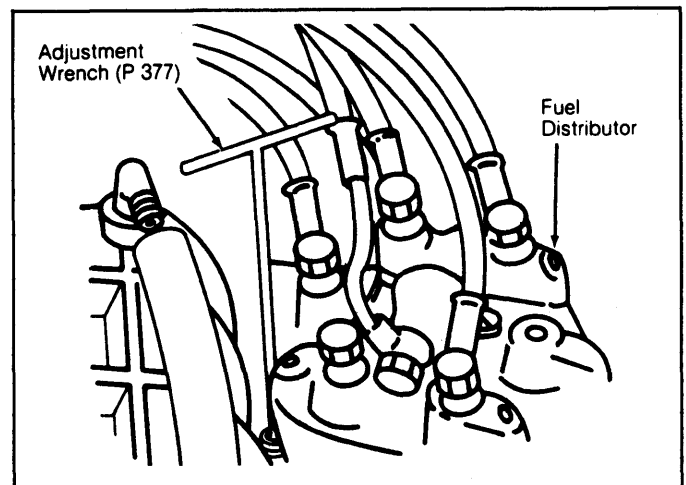

Fig. 4: Adjusting Idle Speed & Mixture
4) Remove mixture adjustment wrench and accelerate engine briefly. See Fig. 4. Wait until CO% meter has stabilized for idle speed reading. Check idle speed and CO% level and adjust if necessary.